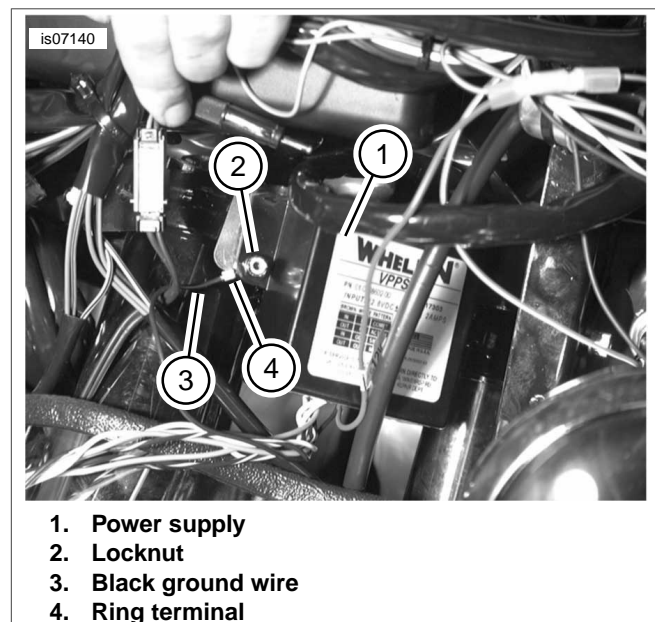

Figure 12. Install Ground Wire Ring Terminal (2013- Earlier FLHTP Models)
7. See Figure 12. Hold the power supply (1) and securing screw in place. Remove the locknut (2). Place the black ground wire (3) ring terminal (4) onto the screw threads. Insert the screw through the steel plate and power supply. Install the locknut onto the screw threads. Tighten securely.